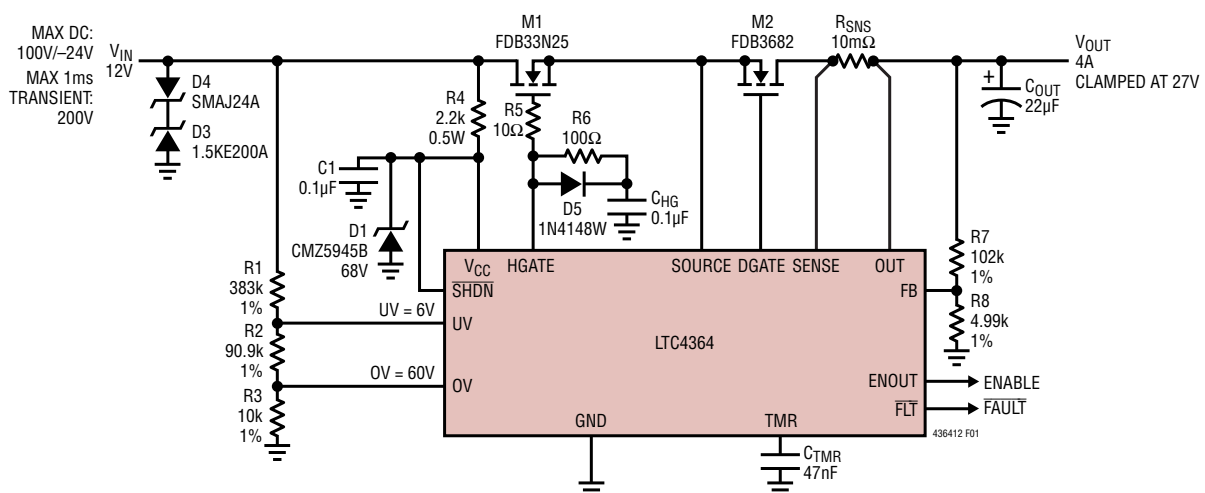
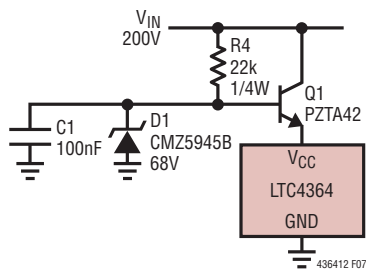

Figure 1. 4A, 12V Overvoltage Output Regulator with Reverse Current Protection
Figure 7. Buffering  $V_{CC}$  to Extend Input Supply Range
**$\Delta V_{HGATE}$  vs  $V_{IN}$  in Figure 1**
**$\Delta V_{DGATE}$  vs  $V_{IN}$  in Figure 1**
The LTC4364 drives an N-channel MOSFET (M1) at the HGATE pin to limit the voltage and current to the load circuitry during supply transients or overcurrent events. The selection of M1 is critical for this application. It must stay on and provide a low impedance path from the input supply to the load during normal operation and then dissipate power during overvoltage or overcurrent conditions. The LTC4364 also drives a second N-channel MOSFET (M2) at the DGATE pin as an ideal diode to protect the load from damage during reverse polarity input conditions, and to block reverse current flow in the event the input collapses. A typical application circuit using the LTC4364 to regulate the output at 27V during input surges with reverse input protection is shown in Figure 1.
Input overvoltage is detected with the OV pin and an external resistive divider connected to the input (Figure 1). At power-up, if the OV pin voltage is higher than its 1.25V threshold before the 100 $\mu\text{s}$  internal power-on-reset expires, or before the input undervoltage condition is cleared at the UV pin, the HGATE pin will be held low until the OV pin voltage drops below its threshold. To prevent start-up in the event the board is hot swapped into an overvoltage supply, separate resistive dividers with filtering capacitors can be used for the OV and UV pins (Figure 2). The RC constants should be skewed so that  $\tau_{\text{UV}}/\tau_{\text{OV}} > 50$ . In Figure 2, If the board is plugged into a supply that is higher than 60V, the LTC4364 will not turn on the pass devices until the supply voltage drops below 60V.
The LTC4364 detects input undervoltage conditions such as low battery using the UV pin. When the voltage at the UV pin is below its 1.25V threshold, the HGATE pin pulls low to keep the pass device off. Once the UV pin voltage rises above the UV threshold plus the UV hysteresis (50mV typical), the HGATE pin is allowed to pull up without going through a timer cycle. In Figure 1 and Figure 2, the input UV threshold is set by the resistive dividers to 6V. An undervoltage condition does not produce an output at the  $\overline{\text{FLT}}$  pin.
The LTC4364 drives two N-channel MOSFETs, M1 and M2, as the pass devices to conduct the load current (Figure 1). The important features are on-resistance,  $R_{\text{DS(ON)}}$ , the maximum drain-source voltage,  $V_{(\text{BR})\text{DSS}}$ , the threshold voltage, and the safe operating area, SOA.
The added gate capacitor slows down the turn-off time during fault conditions and allows higher peak currents to build up during an output short event. If this is a concern, an extra resistor, R6, in series with  $C_{HG}$  can restore the turn-off time. A diode, D5, should be placed across R6 with the cathode connected to  $C_{HG}$  as shown in Figure 1. In a fast transient input step, D5 provides a bypass path to  $C_{HG}$  for the benefit of holding HGATE low and preventing self enhancement.
The LTC4364 is tested to operate to 80V and guaranteed to be safe from damage between 100V and  $-40V$ . Voltage transients above 100V or below  $-40V$  may cause permanent damage. During a short-circuit condition, the large change in current flowing through power supply traces coupled with parasitic inductances from associated wiring can cause destructive voltage transients in both positive and negative directions at the  $V_{CC}$ , SOURCE, and OUT pins. To reduce the voltage transients, minimize the power trace parasitic inductance by using short, wide traces. A small RC filter (R4 and C1 in Figure 1) at the  $V_{CC}$  pin filters high voltage spikes of short pulse width.
Another way to limit supply transients above 100V at the  $V_{CC}$  pin is to use a Zener diode and a resistor, D1 and R4, as shown in Figure 1. D1 clamps voltage spikes at the  $V_{CC}$  pin while R4 limits the current through D1 to a safe level during the surge. In the negative direction, D1 along with R4 clamps the  $V_{CC}$  pin near GND. The inclusion of R4 in series with the  $V_{CC}$  pin increases the minimum required supply voltage due to the extra voltage drop across the resistor, which is determined by the supply current of the LTC4364 and the leakage current of D1. 2.2k adds about 1V to the minimum operating voltage.
For sustained, elevated supply voltages, the power dissipation of R4 becomes unacceptable. This can be resolved by using an external NPN transistor (Q1 in Figure 7) as a buffer. To protect Q1 against supply reversal, block the collector of Q1 with a series diode or tie it to the cathode of D3 and D4 in Figure 1.
Transient suppressor D3 in Figure 1 clamps the input voltage to 200V for voltage transients higher than 200V, to prevent breakdown of M1. It also blocks forward conduction in D4. D4 limits the SOURCE pin voltage to 24V below GND when the input goes negative.  $C_{OUT}$  helps absorb the inductive energy at the output upon a sudden input short, protecting the OUT and SENSE pins.
The OUT and SENSE pins can withstand up to 100V above and 20V below GND. In all applications the output must be bypassed with at least 22 $\mu$ F low ESR electrolytic ( $C_{OUT}$  in Figure 1) to stabilize the voltage and current limiting loops, and to minimize capacitive feedthrough of input transients. Total ceramic bypassing of up to one-tenth the total electrolytic capacitance is permissible without compromising performance.
As a design example, consider an application with the following specifications:  $V_{IN} = 8V$  to 14V DC with a peak transient of 200V and decay time constant  $\tau$  of 1ms,  $V_{OUT} \leq 27V$ , minimum current limit  $I_{LIM(MIN)}$  at 4A, low-battery detection at 6V, input overvoltage level at 60V, and 1ms of overvoltage early warning (Figure 1).